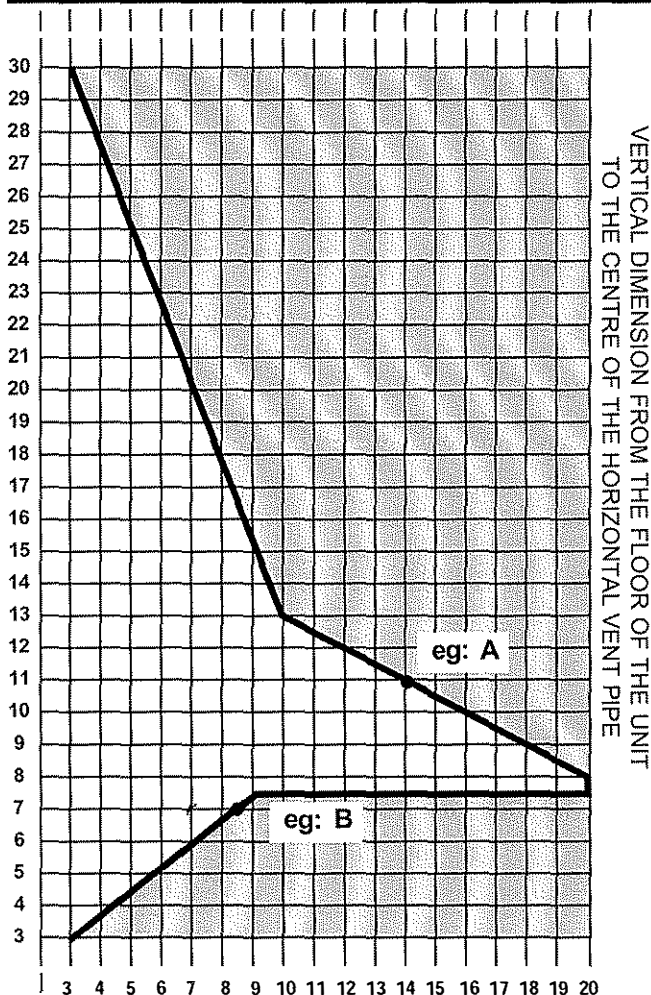

Fig. 17
The graph showing the relationship between vertical and horizontal side wall venting will help to determine the various vent lengths allowable. Fig. 17.
1. Determine the height of the centre of the horizontal vent pipe exiting through the outer wall. Using this dimension on the Sidewall Vent Graph (Fig. 17), locate the point it intersects with the slanted graph line.
The maximum horizontal run with 24" (610mm) vertical rise is 36" (914mm) from the back of the fireplace to the face of the exterior wall. See vent graph (Fig. 17) for extended horizontal run if the vertical exceeds 24" (610mm).